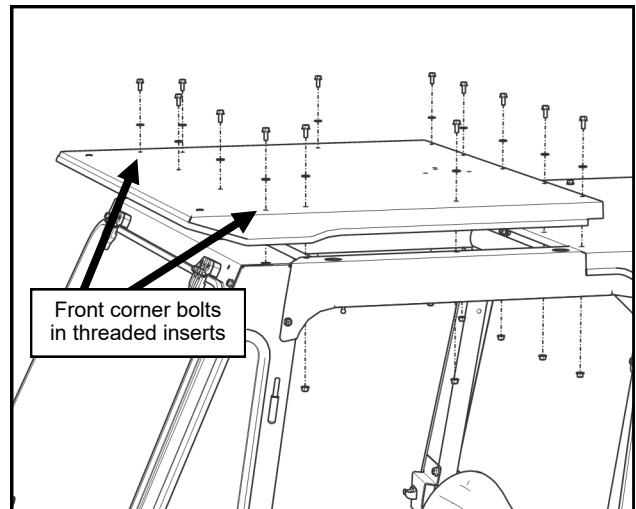

Fig. 1.5 (Remove standard front roof)
- 1.5 Remove the standard cab front roof assembly via twelve bolts, washers and nuts around the perimeter of the roof. See Figure 1.5. Retain the hardware for re-use with the A/C roof assembly.